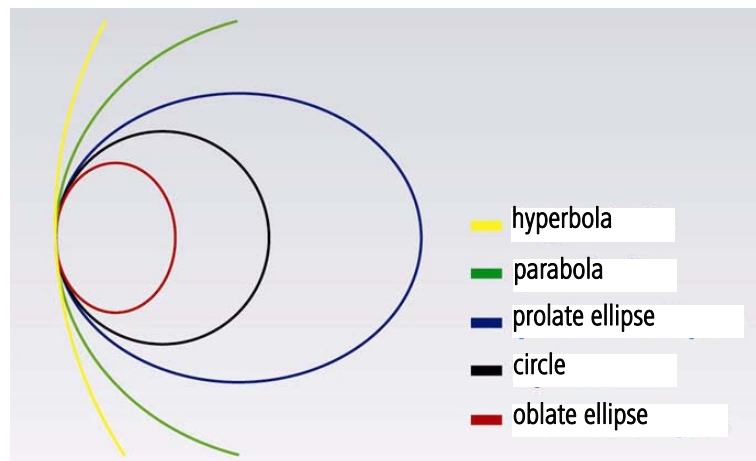

Figure 7-10 Conic Sections
are other descriptors such as Shape Factor (SF), p-value (p), and Q that also describe a conic section (see Table 7-1 and Table 7-2). A conic section can be a circle, and ellipse, a parabola, or a hyperbola (Figure 7-10). A normal cornea is a prolate conic section. That means that the curvature flattens from the apex to the periphery and $0 < SF < 1$. This is called positive asphericity.